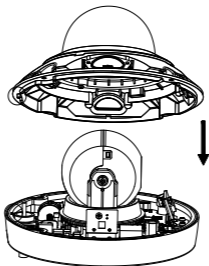

Figure 2-3 Install the Bubble
- Align the bubble with the camera base, and install the bubble back. Fix the bubble with four M4×10 screws, as shown in Figure 2-3.